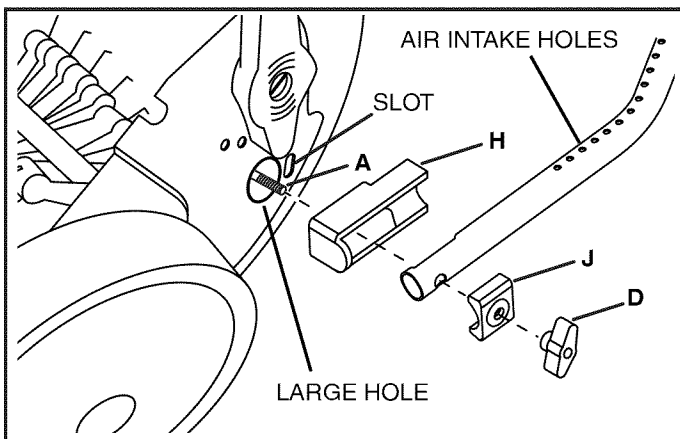

FIGURE 1
STEP 1: (SEE FIGURE 1)
- Fasten the end of the lower handle tube with air intake holes to the side of the Power Rake housing with the large hole. Use the right handle bracket (H), hex bolt (A), right handle clamp (J) and wing knob (D). Align the pin in the bracket with the slot in the housing and tighten the wing knob.